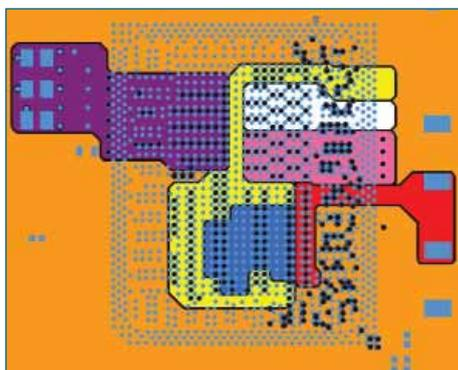

Fig. 1: This single IC requires six voltages and each must be fed by a separate PDN.
Fig. 1 shows a typical integrated circuit (IC) with multiple voltages and the complex power distribution networks (PDN) required to supply those voltages and grounds. Several factors contribute to the increase in printed circuit board (PCB) design complexity for the CAD designers as well as the EE who must analyse these PDNs: the growing number of different voltages on a design, the smaller voltage magnitudes (resulting in very tight tolerances), increasing power demands from ICs, and the ever-present issues of increasing operating frequency and the need to reduce product cost (you can no longer afford to devote a PCB layer to every unique voltage and ground).